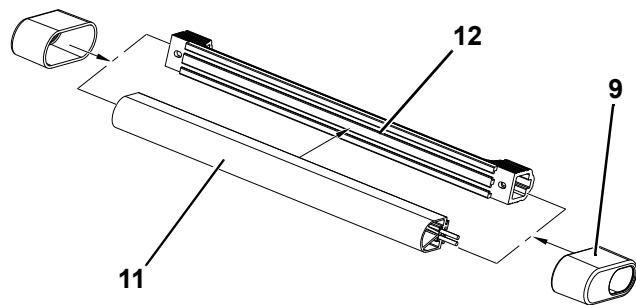

Figure 4-39.
2. Align and attach Platform Sensor Mount (**12**) onto the SkyGuard Switch (**11**) as shown in Figure 4-39.
3. Attach Platform Sensor Covers (**9**) to SkyGuard switch assembly at both ends. See Figure 4-39.